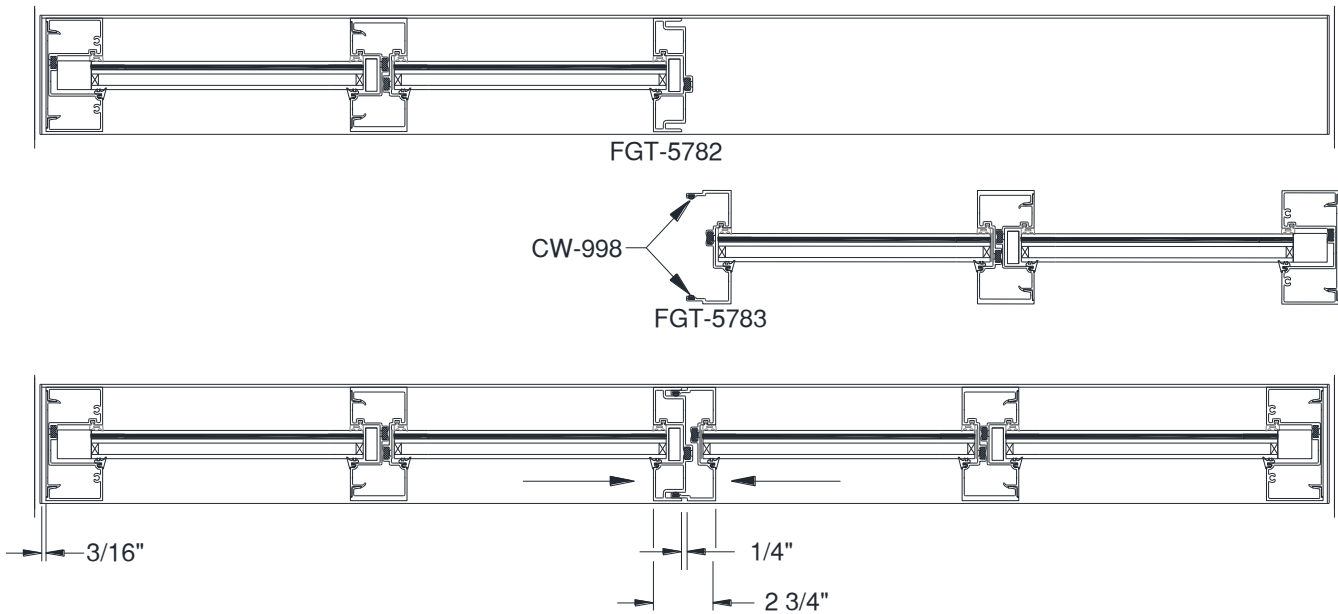

Figure 20: Expansion Mullion Installation
- 13.2 Reference Section 11.0 Installation of Framing Panels for generic panel installation instructions and *Figure 20* for how to snap Expansion Mullions together.